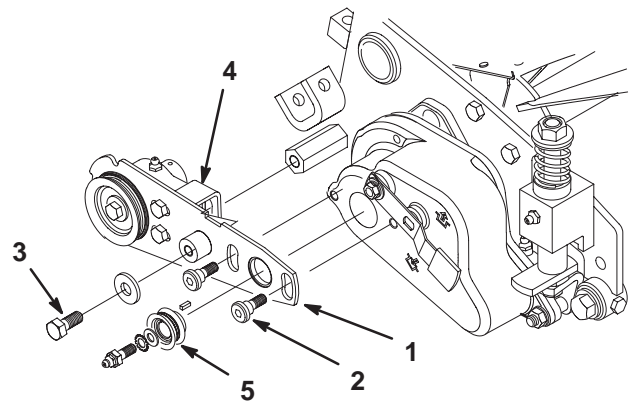

Figure 5
- Insert the lip of the drive assembly pivot plate into the hole in the groomer drive cover. Secure the pivot plate to the groomer drive cover with 2 special shoulder bolts (Fig. 5). Tighten the bolts securely.
- Loosely secure the pivot plate slotted bracket to the hex extension with a hex head screw (M10) and flat washer (Fig. 5).
- Install the small drive pulley and square key to the groomer drive shaft with the screw with the grease fitting or relief valve (previously removed), the external tooth lockwasher, and the flat washer. Tighten it securely (Fig. 5).